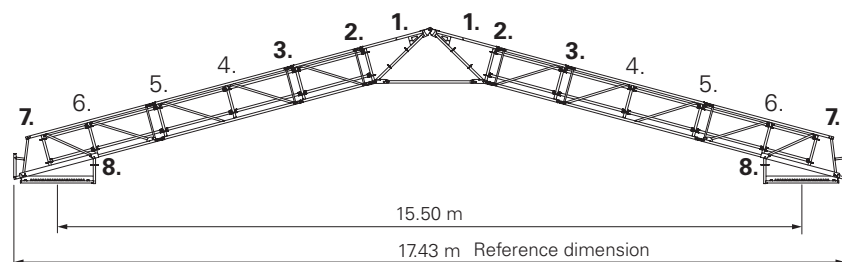

Fig. B1.02b
- without tension system (Fig. B1.02b).